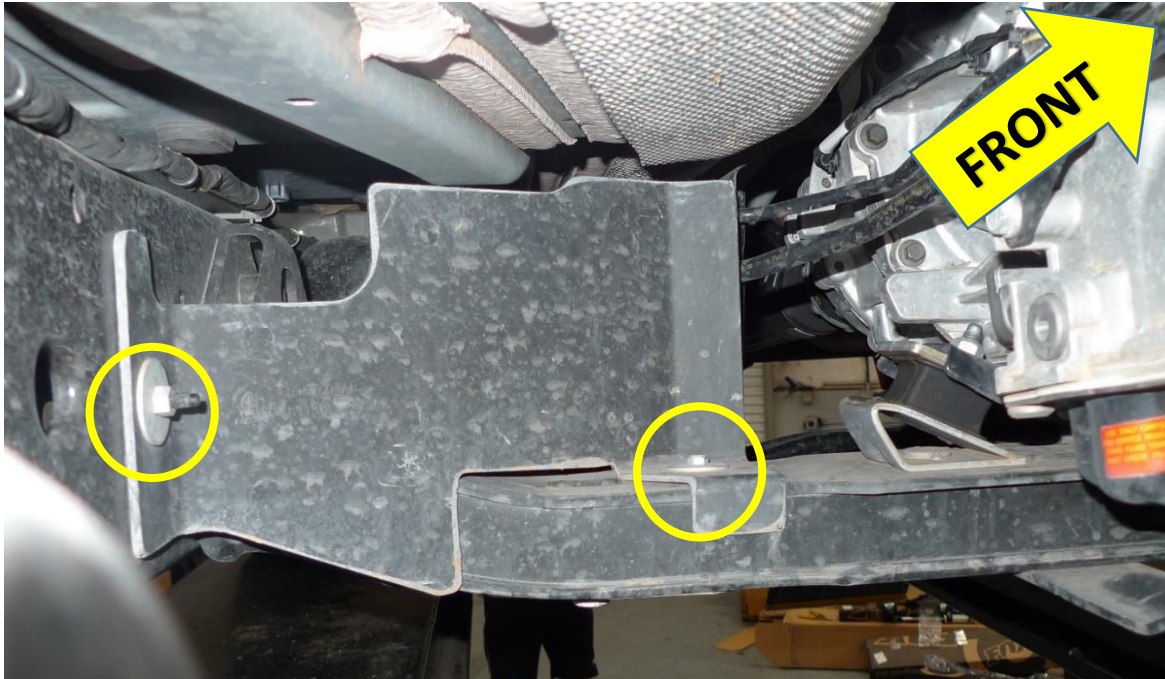

Figure 6 – OEM Splash Shield Mounting Points
10.1.1. Remove M6 nut and bolt from OEM gas tank splash shield, near Transmission crossmember, as shown circled in Figure 6 below.